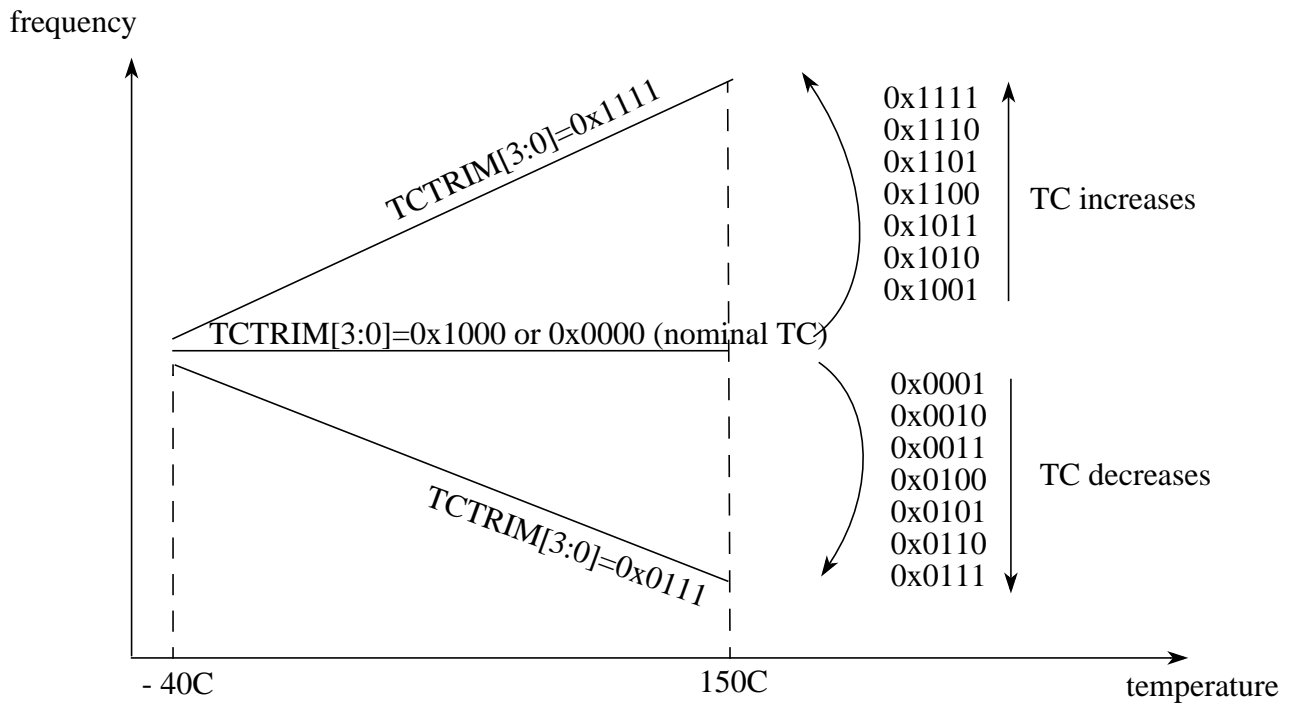

Figure 7-27. Influence of TCTRIM[3:0] on the Temperature Coefficient
| 15-12 TCTRIM[3:0] | IRC1M temperature coefficient Trim Bits Trim bits for the Temperature Coefficient (TC) of the IRC1M frequency. Table 7-21 shows the influence of the bits TCTRIM[3:0] on the relationship between frequency and temperature. Figure 7-27 shows an approximate TC variation, relative to the nominal TC of the IRC1M (i.e. for TCTRIM[3:0]=0000 or 1000). |